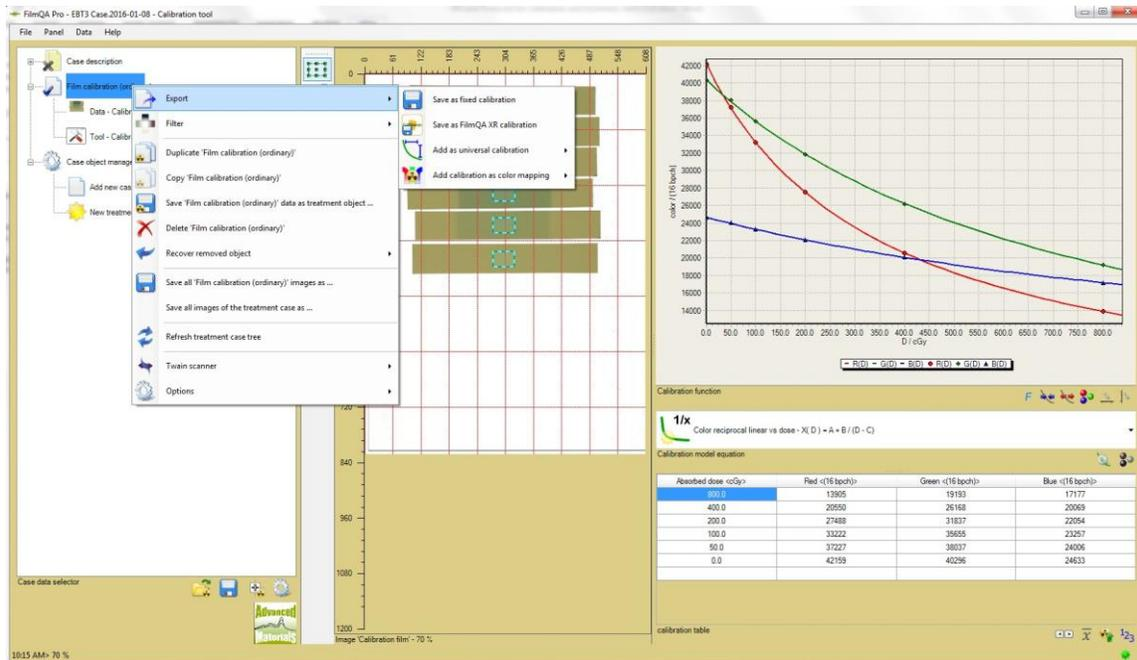

Figure V-8
Step 9: Right click the “Film Calibration (ordinary)” data object, select “Save as fixed calibration” from the dropdown menu (Figure V-8) and save the calibration. The response function is applicable to other films from the same production lot scanned on the same scanner. For the most accurate dose measurements, use in combination with the ‘One-scan’ protocol and include reference films to compensate for scan-to-scan variability due to scanner and environmental factors.